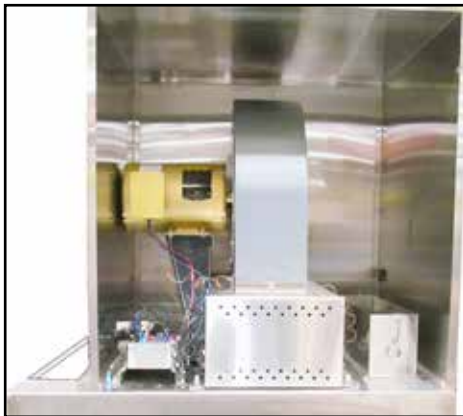
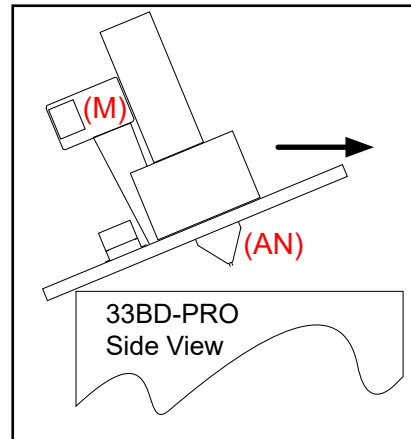

Fig. 9 - BD Front panel shown removed.
Fig. 10 -Tilt and slide in to place.
1. Remove the blower dryer panels and wrap, (Fig. 9).
2. The blower dryer motor (M) is always to the left.
3. Tilt the blower dryer and carefully slide it on the hood taking care to clear the air nozzle (AN) to prevent damage, (Fig. 10).